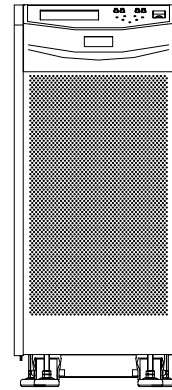

Fig. 4-2 Handing (Front view)
- For safety reasons, please secure the unit by releasing the feet. Refer to Fig.4-2.